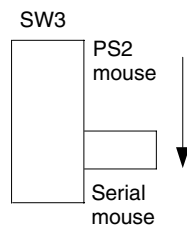

FIG. 15 Switch setting for use of a serial mouse
The PC Presenter supports PS2 mice by default. If you prefer to use a serial mouse you must set internal slide switch SW3 for this mode (FIG. 15). Serial mice typically have a 9 pin D-sub connector. An adapter will be required to plug it into the mouse connector on the AXR-MSE.
- For use a serial mouse, slide the SW3 switch to the "serial mouse" position as shown in FIG. 15: